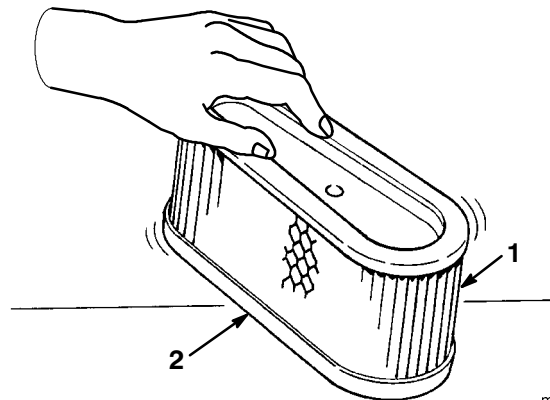

Figure 27
1. Lightly tap the element on a flat surface to remove dust and dirt (Fig. 27).